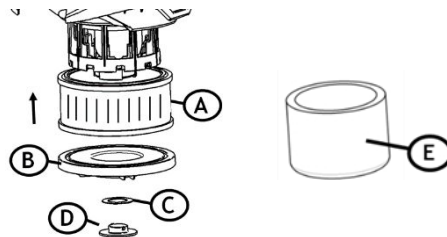

Figure 11
- i. See Figure 11 to wash filters. Follow the instructions from A – F.